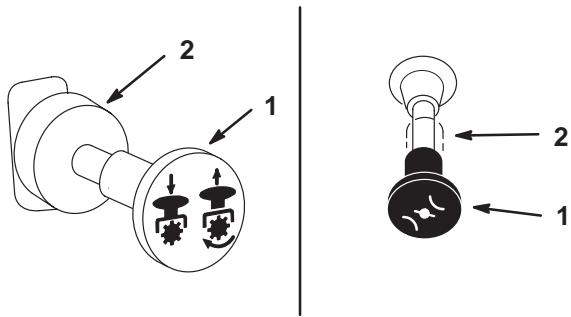

Figure 3
- Move the PTO (power take off) switch to “OFF” (Fig. 3).